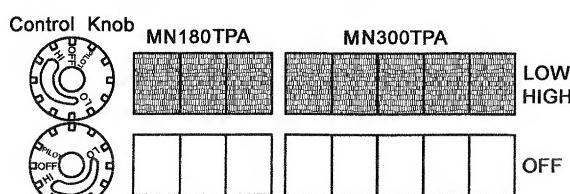

Figure 21 - Burner Patterns
8. Turn control knob counterclockwise \curvearrowleft to desired heating level. The main burner should light. Set control knob to any heat level between HI and LO. (see Figure 21)